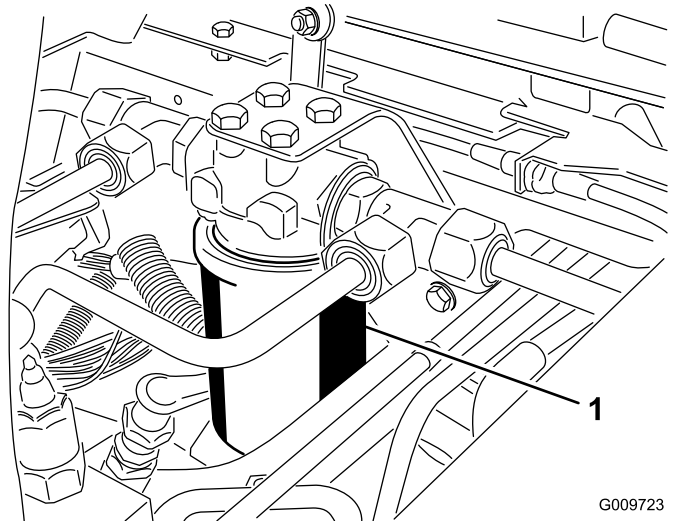
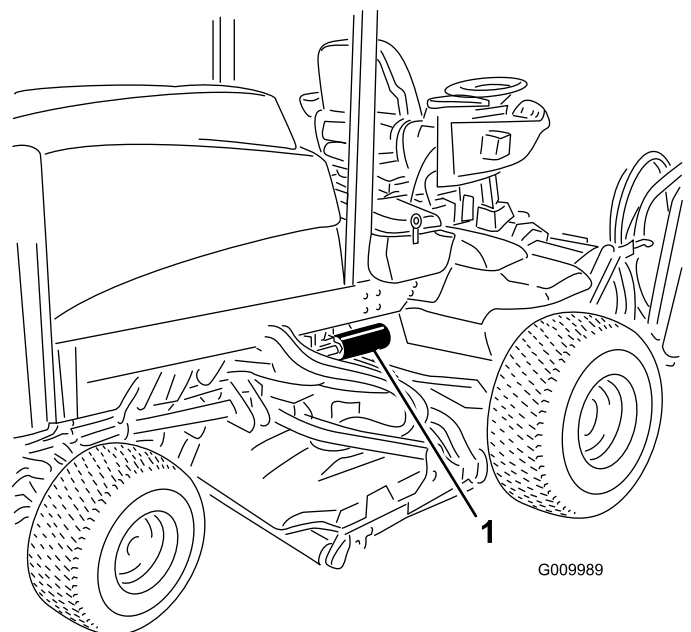

Figure 60
Figure 61
3. Place a drain pan under the filter and remove the filter (Figure 60 and Figure 61).